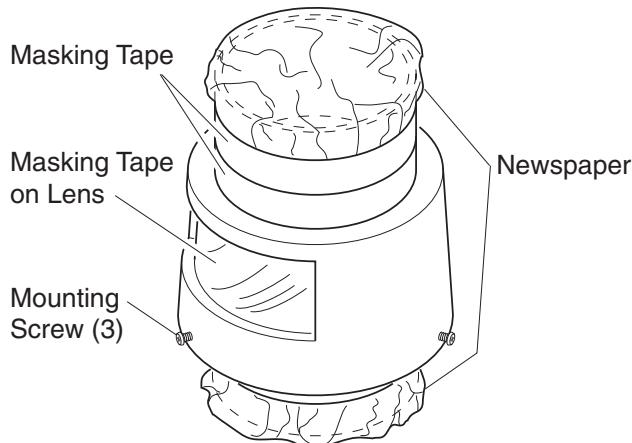

Figure 1 - Attaching Masking Tape and News paper
1. Cover upper and lower portion of motion sensing unit with masking tape and newspaper to prevent overspray (see Figure 1).
2. Cover lens area with masking tape (see Figure 1).
3. Tighten mounting screws (3) against motion sensing unit and then loosen two full turns.